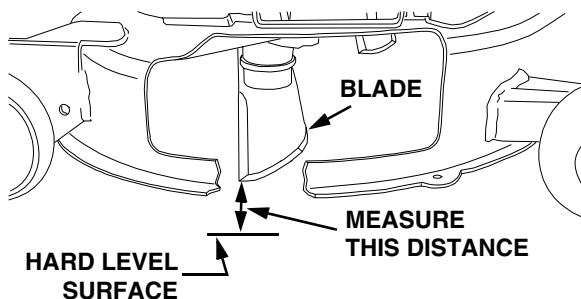

Figure 32
4. Measure and record the distance from the level surface to the outer-most cutting edge of the right blade (See Figure 32). Repeat this step for the left blade. If the two blade heights are not within 1/16 inch, the deck must be leveled. *Note whether the right blade has the larger or smaller measurement.* If the two blade heights are within 1/16 inch, proceed to **FRONT TO BACK LEVELING ADJUSTMENT**.